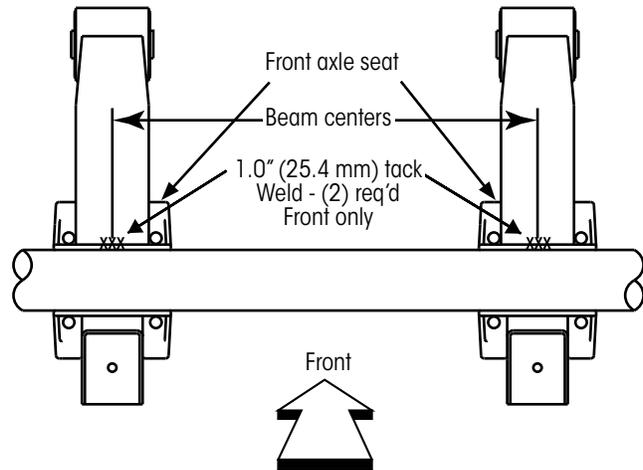

Figure 3: Locations of tack weld
3. Place a 1 inch (25.4 mm) long **tack weld** (Figure 3) on the front axle seat in the center of each suspension beam/axle connection, one tack weld is required per suspension beam.